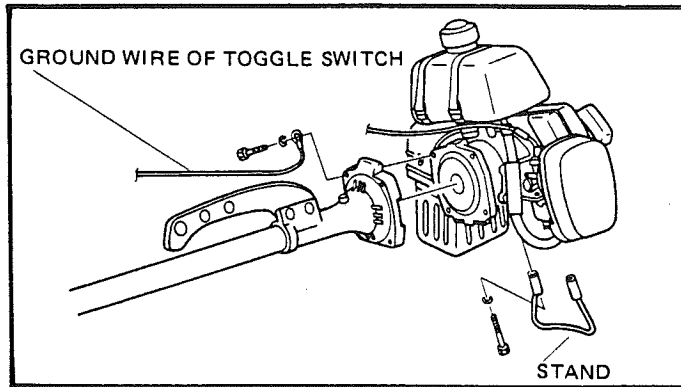

Figure 1
1. After checking parts, fasten fuel tank and fit drive shaft to engine with four screws. Figure 1.
2. Attach stand to engine with two bolts. Figure 1.